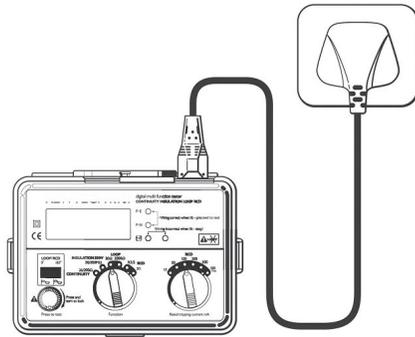

Fig 10
- Connect the mains lead (See Fig. 10 above) to the IEC socket of the instrument.
- c) Connect the mains lead (See Fig. 10) to the IEC socket of the instrument.